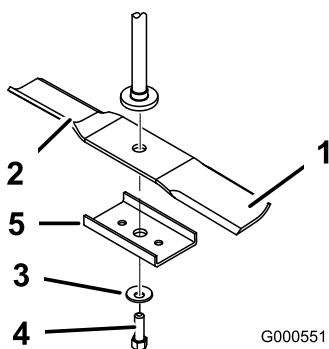

Figure 39
Hold the blade end using a rag or thickly-padded glove. Remove the blade bolt, curved washer, blade stiffener, and blade from the spindle shaft (Figure 39).
1. Install the blade onto the spindle shaft (Figure 39).
2. Install the blade stiffener, the curved washer (cupped side toward the blade) and the blade bolt (Figure 39).